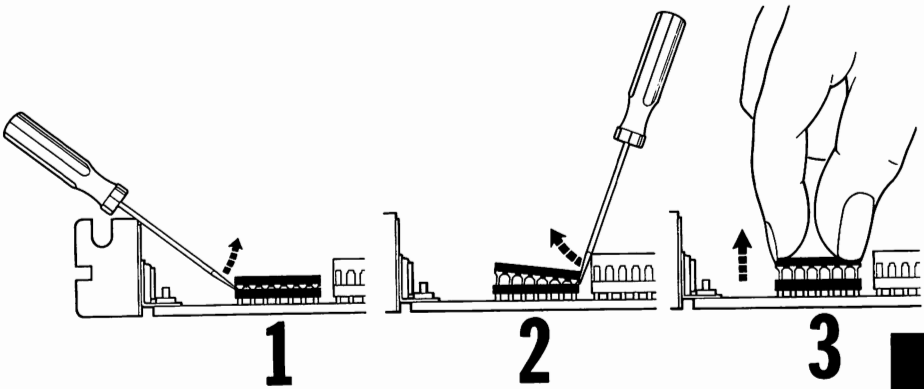

Figure 2-5. Removing the jumper block
- Carefully insert the tip of a small, flat-bladed screwdriver under one end of the jumper block and lift up gently until the jumper block is partially free of the connectors (Fig. 2-5).